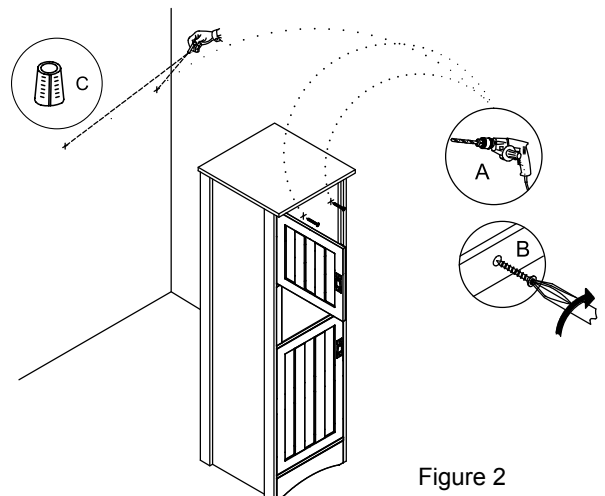

Figure 2
- 4: Secure the linen cabinet to the wall by inserting (x 2) #8 x 2 in. screws (B - not included) through the back rail of the linen cabinet. Figure 2. It is recommended that the cabinet be installed to at least 1 wall stud. In order to locate wall studs, you can use a stud finder or tap along the wall until you find a spot that sounds solid. If you are unable to locate a wall stud, it is recommended that you use wall anchors (C - not included) to secure your cabinet.